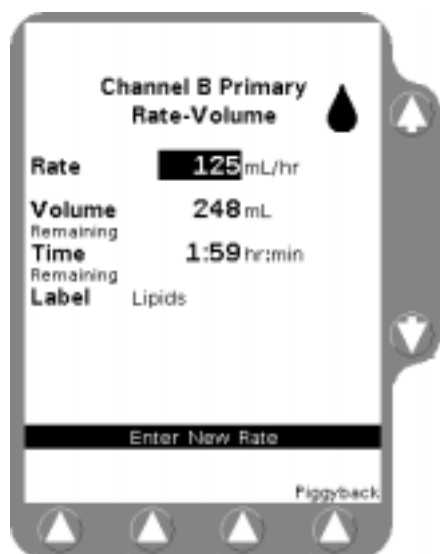
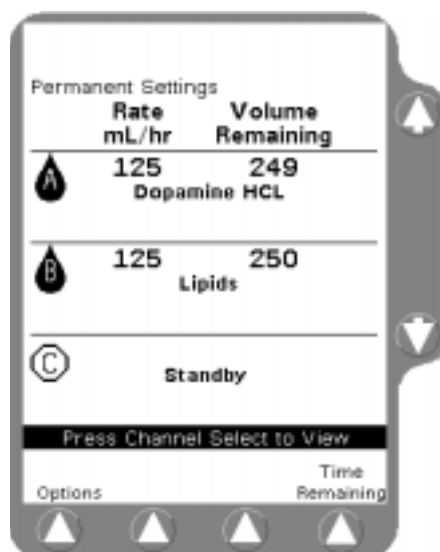

Figure 5-1 Programming Screen
Figure 5-2 Main Display
This configurable feature allows you to display informational labels on the Programming screen (Figure 5-1) and Main Display screen (Figure 5-2), and an eight-character abbreviation of the label on the Pump Module display.
3. Highlight the label you want to select using the  $\uparrow\downarrow$  keys, then press the **Select** soft key. When the **Select** soft key is pressed, the Programming screen is displayed, showing the label you selected (Figure 5-1).